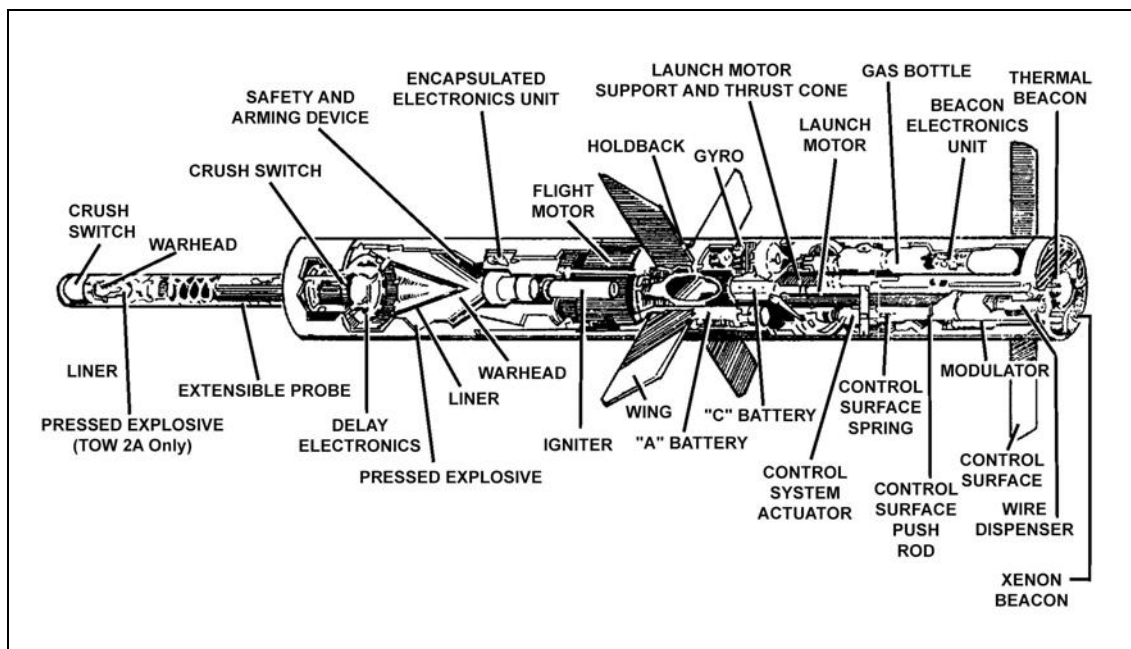

Figure 2-16. TOW 2 and TOW 2A missiles.
c. **TOW 2 (BGM-71D)**. The TOW 2 has a 6-inch full-caliber warhead with an extensible probe (Figure 2-16, page 2-22). This missile has a xenon beacon like the basic and ITOW missiles, but it also has a thermal beacon. The thermal beacon improves missile performance through battlefield smoke and obscurants, and against missile countermeasure devices (jammers). The thermal beacon links tracking to the electro-optical FLIR, which is part of the TOW 2 subsystem. The TOW 2's flight motor is also more powerful than the one in previous models. The TOW 2's maximum effective range is 3,750 meters.
d. **TOW 2A (BGM-71E)**. The TOW 2A has the same characteristics as the TOW 2, except with the addition of a precursor charge on the extensible probe. The precursor charge discharges reactive armor before the main charge impacts (Figure 2-16, page 2-22).